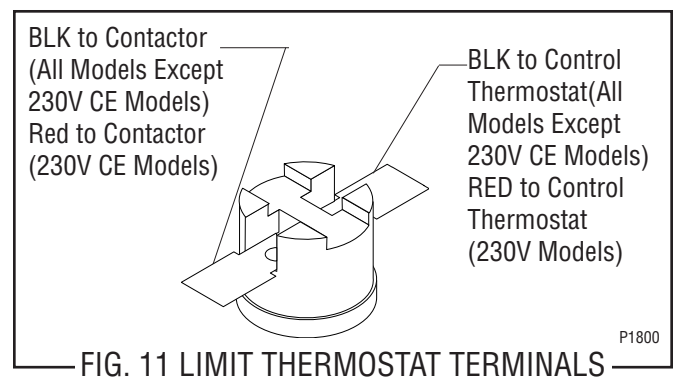

FIG. 11 LIMIT THERMOSTAT TERMINALS
4. Refer to Fig. 11 and reconnect the wires.